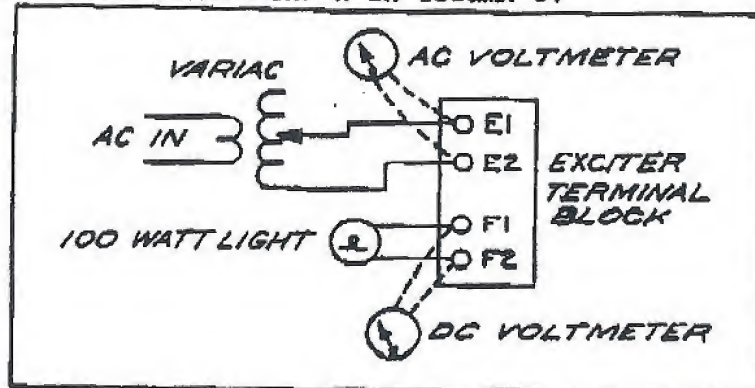

FIGURE 5. BENCH TEST SCHEMATIC
1. Connect Variac to exciter terminals E1 and E2 as shown in Figure 5.